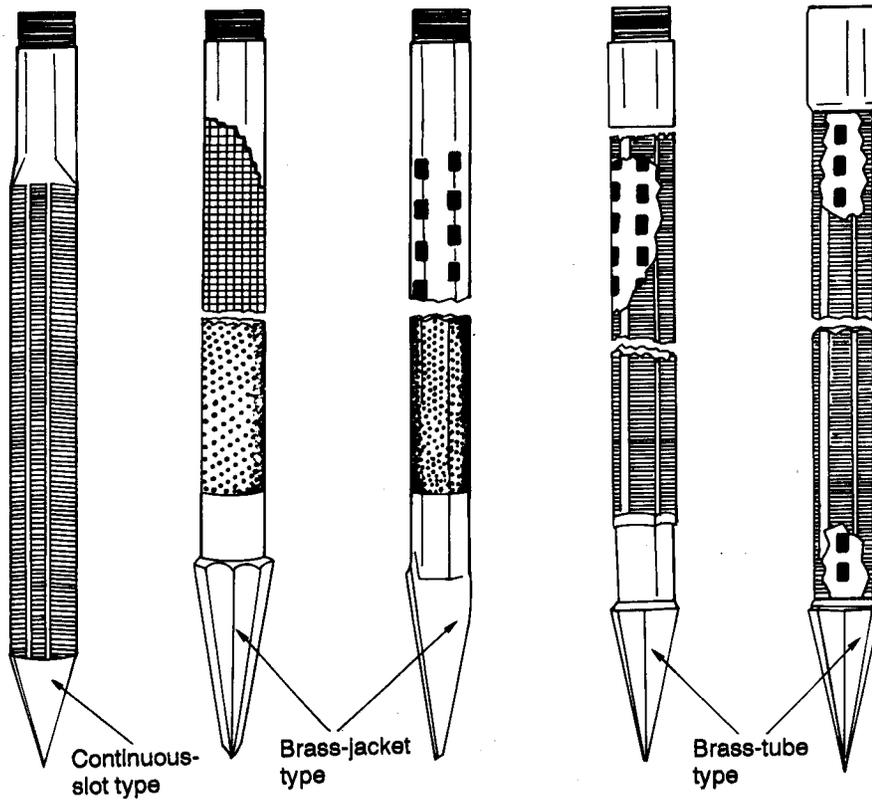

Figure 9-7. Continuous-slot drive points
(1) Drive Points. The continuous-slot drive point (Figure 9-7, page 9-8) has a screen with horizontal openings and one-piece welded construction and contains no internal perforated pipe to restrict the intake area. The pipe will withstand hard driving but should not be twisted while being driven.